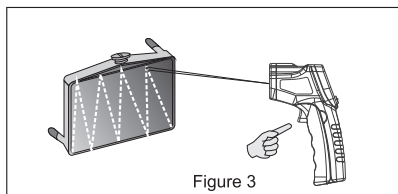

Figure 3
2. Locating a Hot Spot: Figure 3